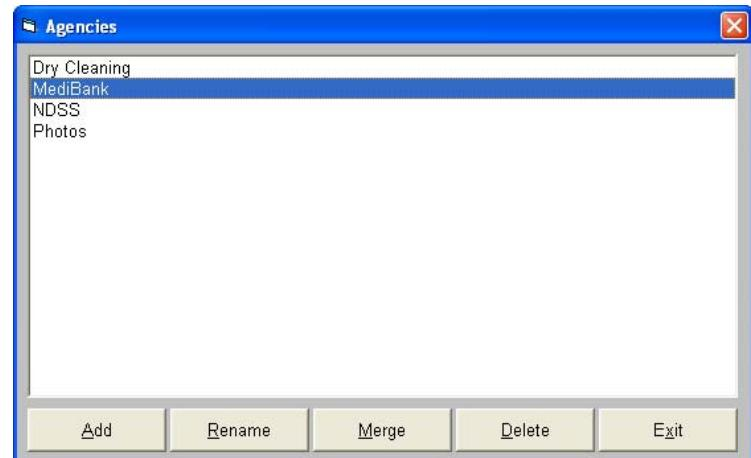

Figure 51
2. From the 'Agencies' screen, select 'Add' (Figure 51).